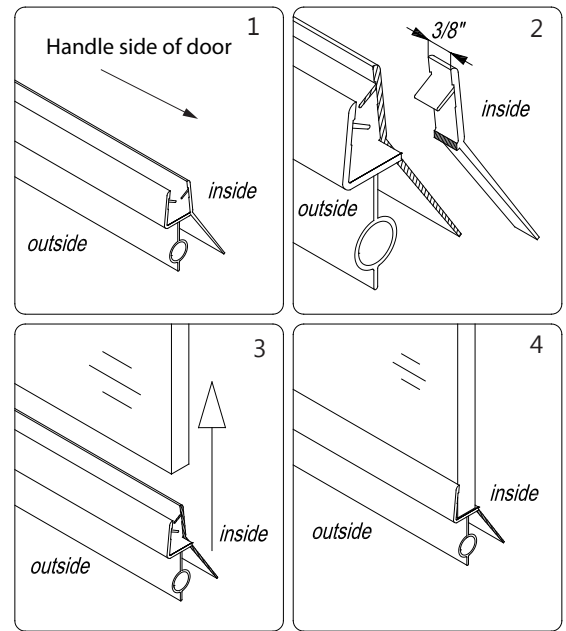

Fig 12
11. Measure the bottom of the **Glass door (#01)** from end to end to determine the actual width of the door. Cut the **Bottom anti-water strip (#07)** to the size of your measurement and notch $\frac{3}{8}$ " of the inner side of the **Bottom anti-water strip (#07)** as shown in Fig 12 Press the **Bottom Anti-water strip (#07)** onto the bottom edge of the **Glass door (#01)**.
See Fig. 12 for details